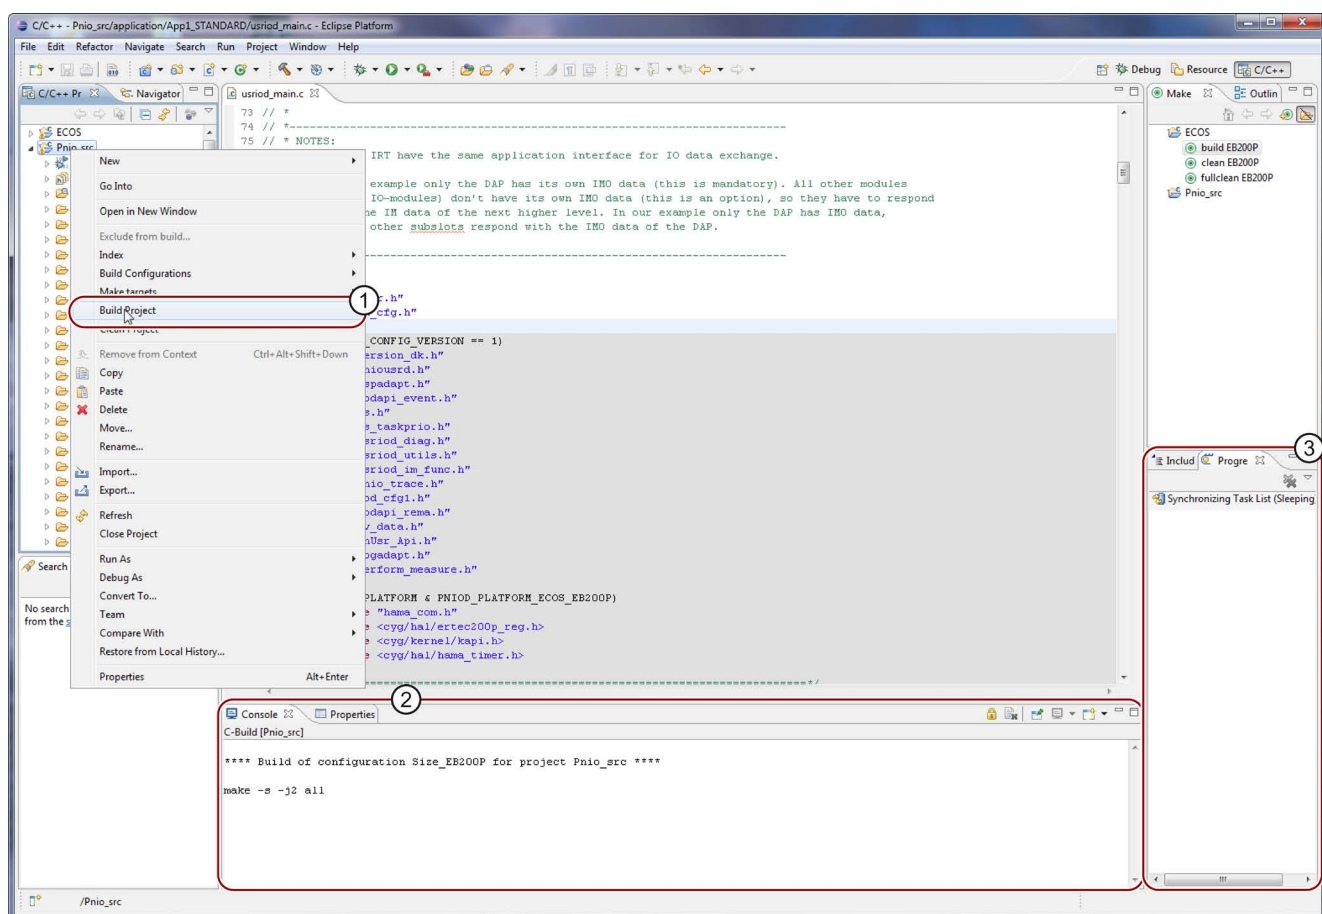

Figure 4-8 Performing the project build
3. Select the command **Build Project**, see Figure 4-8 Performing the project build (Page 24).